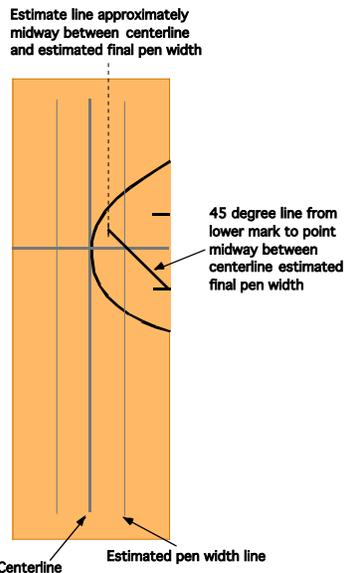

Figure 4 – 45 Degree Mouth Line.
6. At the mark that is closest to the BOTTOM of the happy face DRAW a 45 degree line from the EDGE of the blank to a point approximately midway between the centerline and the final pen width line closest to the mark. This is the mouth line and should point towards the CENTER/TOP of the happy face. Figure 4 shows the 45 degree mouth line.